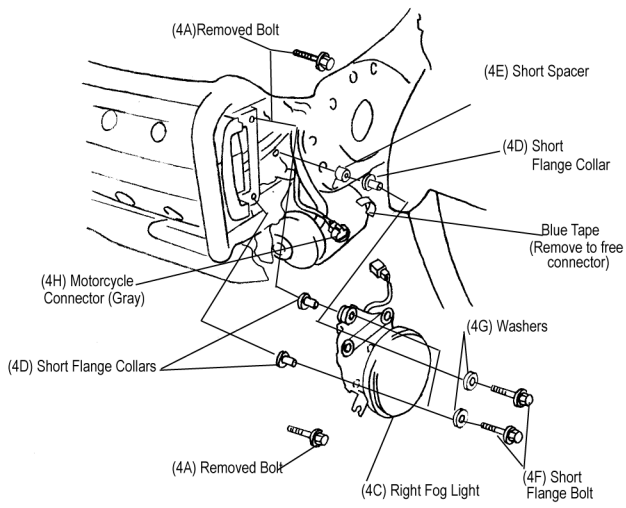

FIG 4
8. USING THE 8MM WRENCH REMOVE THE TWO BOLTS (4A) HOLDING THE PLASTIC TRIM PIECES (4B) ON. INSTALL THE RIGHT FOG LAMP (4C) BY USING THE SHORT FLANGE COLLARS (4D), SHORT SPACER ('01 - '05 MODELS ONLY) (4E), SHORT FLANGE BOLTS (4F) AND WASHERS (4G). PLUG THE 2-PIN CONNECTOR INTO THE MOTORCYCLES 2-PIN GRAY CONNECTOR (4H). THE MOTORCYCLE CONNECTOR MAY BE TAPED TO THE BIKE. THIS TAPE WILL HAVE TO BE REMOVED TO LENGTHEN WIRES. REFER TO FIGURE 4.